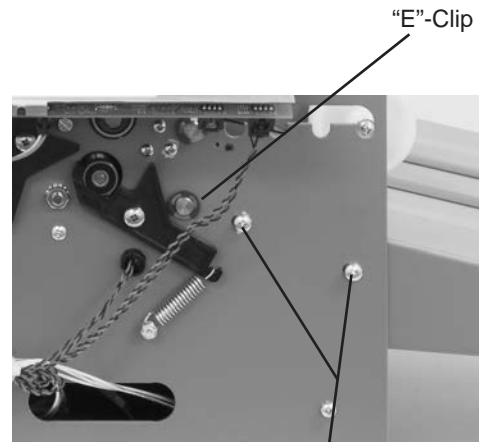

Fig. 21a
4. Loosen stacker mounting screws to release tension on belts (Fig. 21a & 21b).
9. Remove the "E" clip on the operator side of the upper conveyor drive shaft (Fig. 21a).
13. Remove the four screws holding the stacker table in position and remove the stacker table (Fig. 21a & 21c)